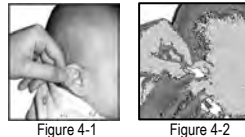

Figure 4-1
5. Gently pull the ear back to straighten the ear canal and snugly position the probe into the ear canal, aiming towards the membrane of the eardrum to obtain an accurate reading. (Fig.4-1)